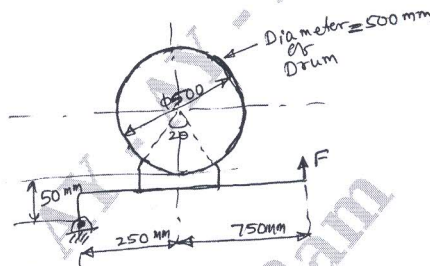

Fig.Q.8(a)
- b. A differential band brake is shown in Fig.Q.8(b). The width and the thickness of the steel band are 100mm and 3mm respectively and the permissible tensile stress in the band is limited to  $50\text{N/mm}^2$ . The coefficient of friction between the friction lining and the brake drum is 0.25, calculate: i) Tensions in the band ii) The actuating force iii) The torque